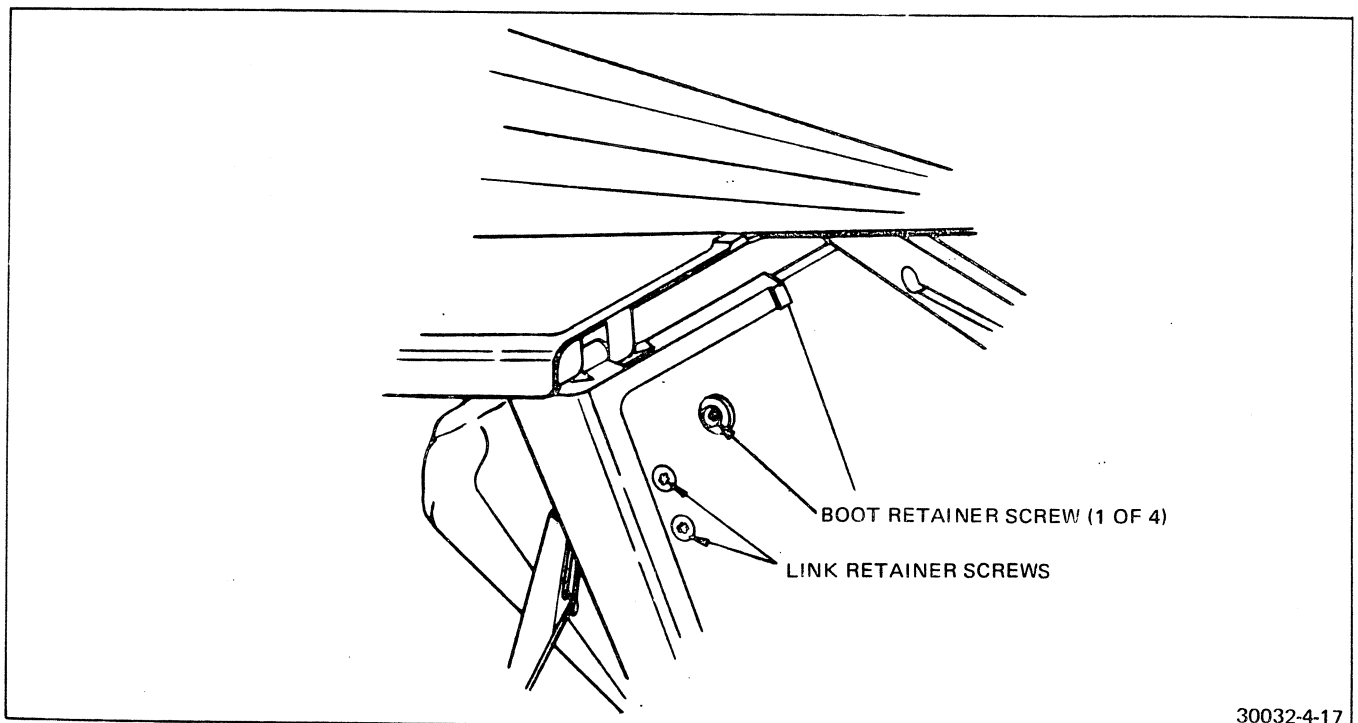

FIGURE 4-17 LOCATION OF BOOT AND LINK RETAINER SCREW
9. Refer to Figure 4-17. Remove the two link-retaining screws.
10. Remove the boot-retaining screw indicated in Figure 4-17.